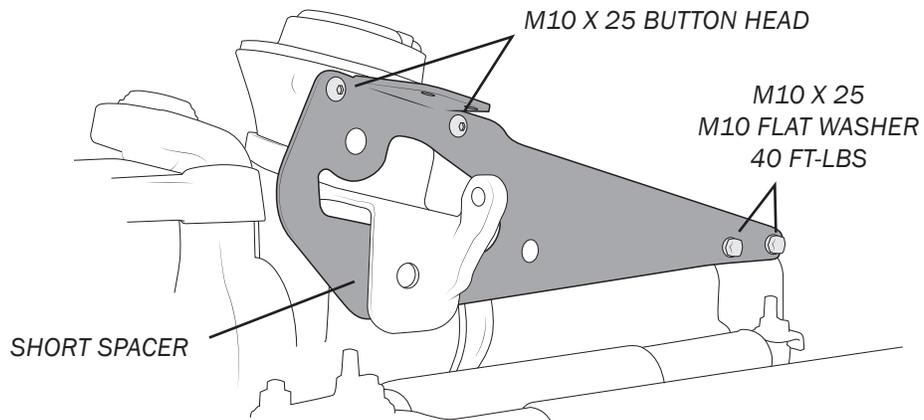

Figure 16
- b. Install the rearward track bar bracket to the new coil spacer and axle using the supplied hardware. Leave loose at this time (fig. 16). NOTE: snug the M10 x 25 button head bolts as far as possible while still allowing for movement.